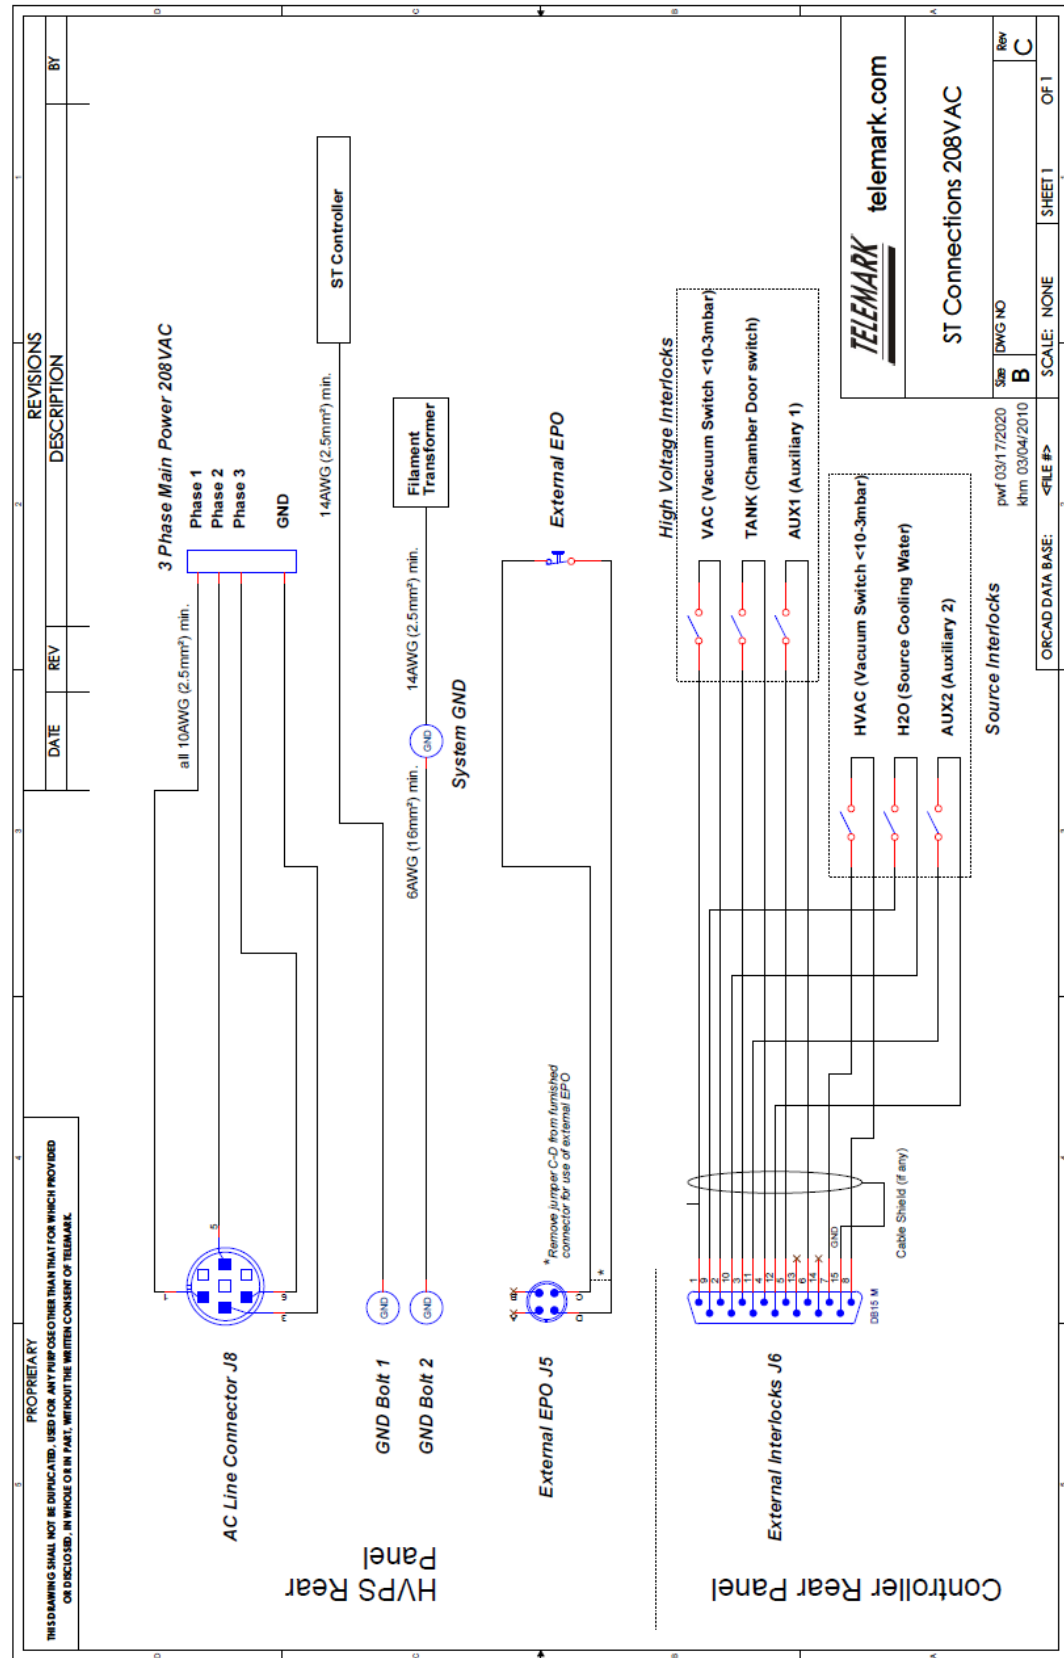

Figure 9-2, Connections ST series 208VAC Version
- Figure 9-2 Connections ST-4/6/8/10, 208VAC